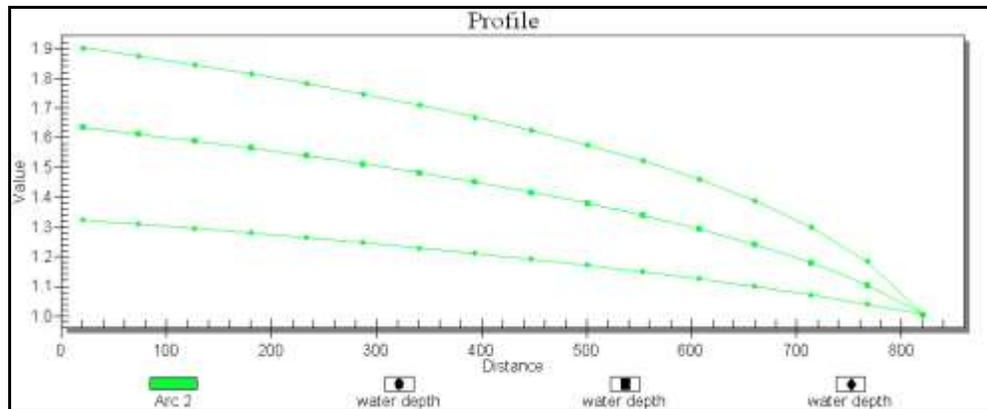

Figure 3 Water depth with varied roughness parameters.
9. Repeat steps 2-8 except change the n value to 0.065, and save the file as “flumea3.sms”. The plot should now look like Figure 3.